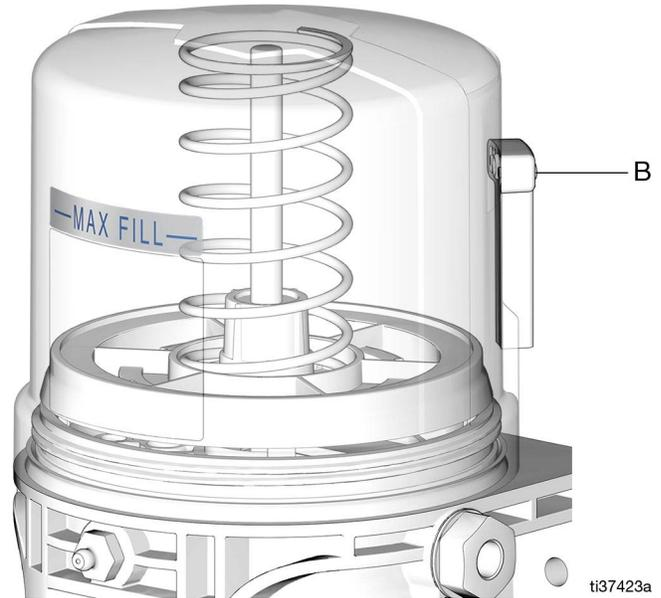

FIG. 20
3. Fill the reservoir with NLGI grease to the MAX line (FIG. 20).
NOTE: The venting tube (B) should not be used as an overfill indicator (FIG. 20).